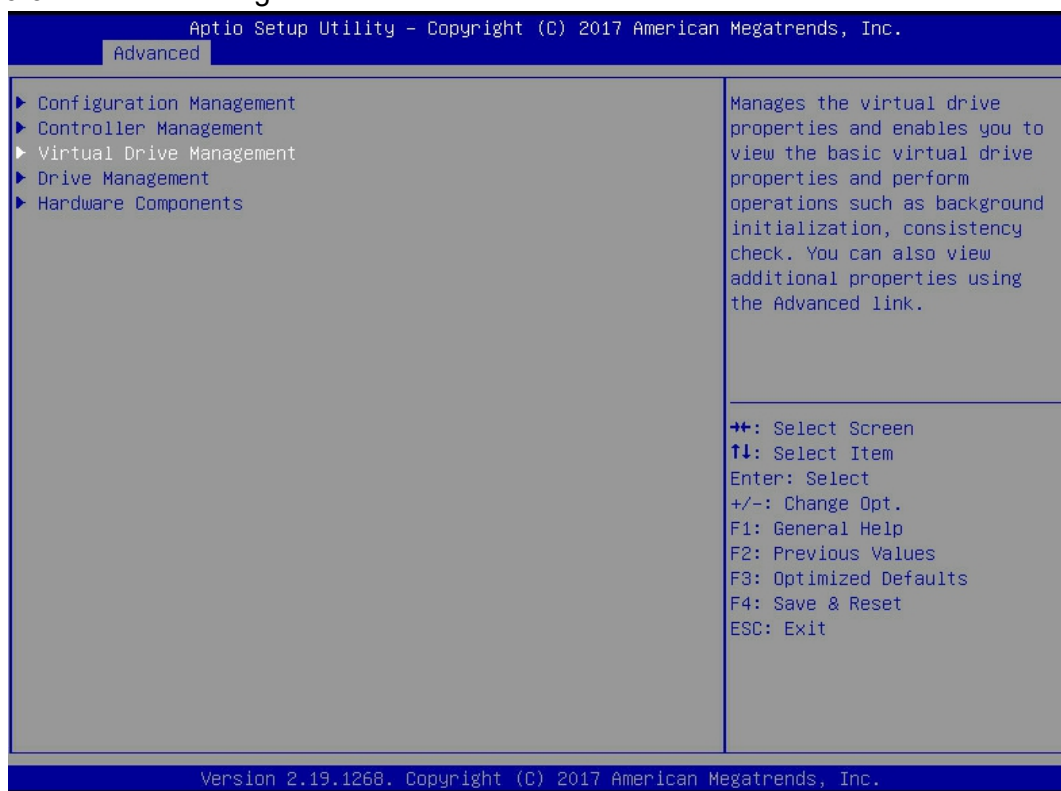

Figure 6-91
- a) As shown in figure 6-91, select virtual drive management in the raid card configuration interface and press enter.
✧ Figure 6-91 raid card configuration interface